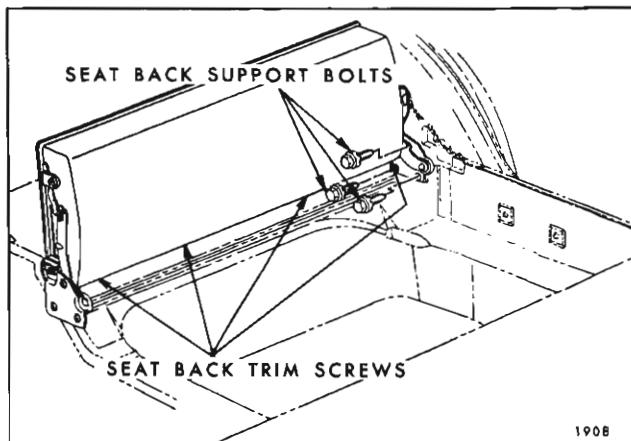

Fig. 1H34—Folding Third Seat Back
3. To install, reverse removal procedure. If support was removed from seat cushion panel, make sure bushing and spring washer are properly installed. (See Fig. 1H33).
2. Remove four screws securing lower edge of seat back trim to seat back panel. (See Fig. 1H34).